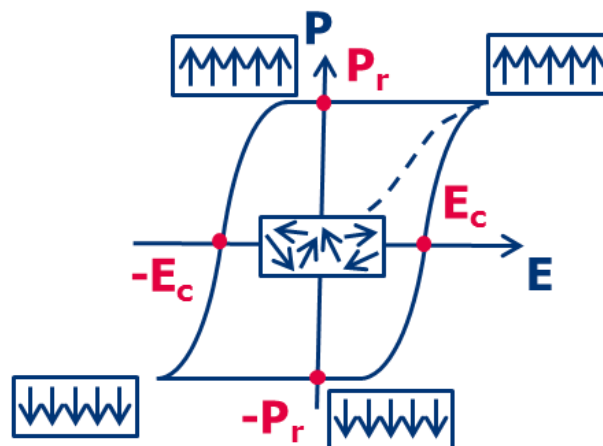

Figure 1. Typical Piezotech[®] FC hysteresis curve.
Piezotech[®] FC polymers are ferroelectric polymers. Figure 1 shows the typical hysteresis loop of polarization vs applied electric field of a Ferroelectric Copolymer (FC). Piezotech[®] FC copolymers exhibit a remnant polarization (P_r) when no electric field is applied. This remnant polarization can be reversed by an electric field above the coercive field ($|E| > E_c$).